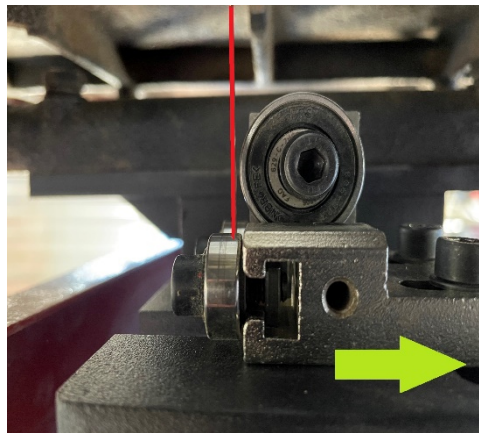

Figure 6
- Adjust the position of the guide slightly behind the axis of the blade (Fig 6)